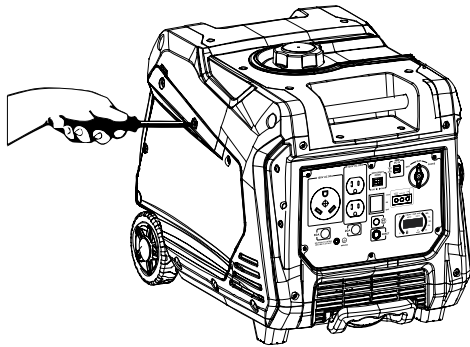

Figure 13: Remove Engine Service Panel
2. Remove the Engine Service Panel to gain access to the air filter (see Figure 13).
1. Remove the Engine Service Panel to access the carburetor (see Figure 13 on page 19).
3. Remove the Engine Service Panel to gain access to the spark plug (see Figure 13 on page 19).